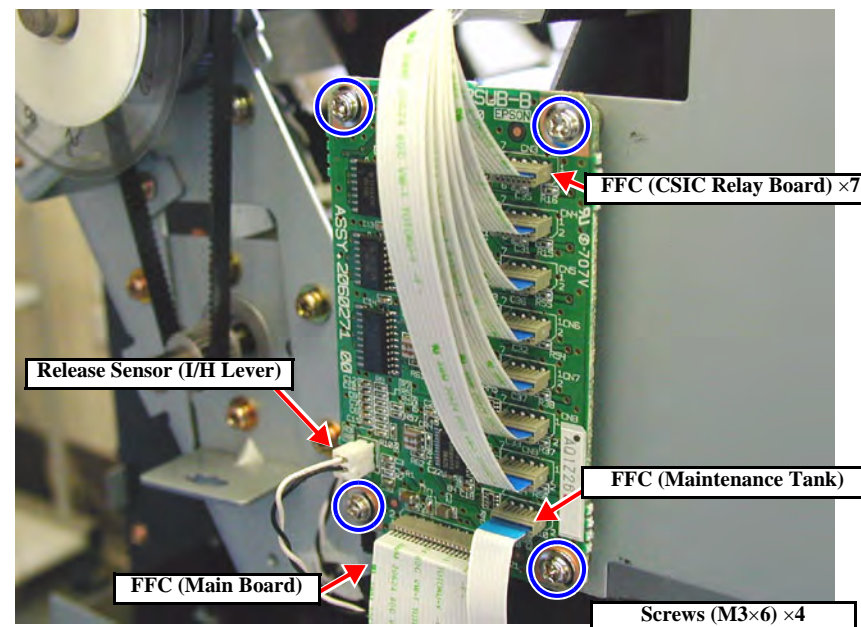

Figure 4-62. Disconnecting the C472_SUB-B Board Connectors
2. Disconnect the seven FFCs (ink cartridge) and the two FFCs (Main Board/Maintenance Tank) on the C472_SUB-B Board found at the left side of I/H Frame. (See Figure 4-62)
5. Disconnect the seven FFCs (ink cartridges), two FFCs (Main Board/Maintenance Tank) and the connector for the Release Sensor (I/H Lever) on the C472_SUB-B Board found at the left side of I/H Frame. (See Figure 4-62)